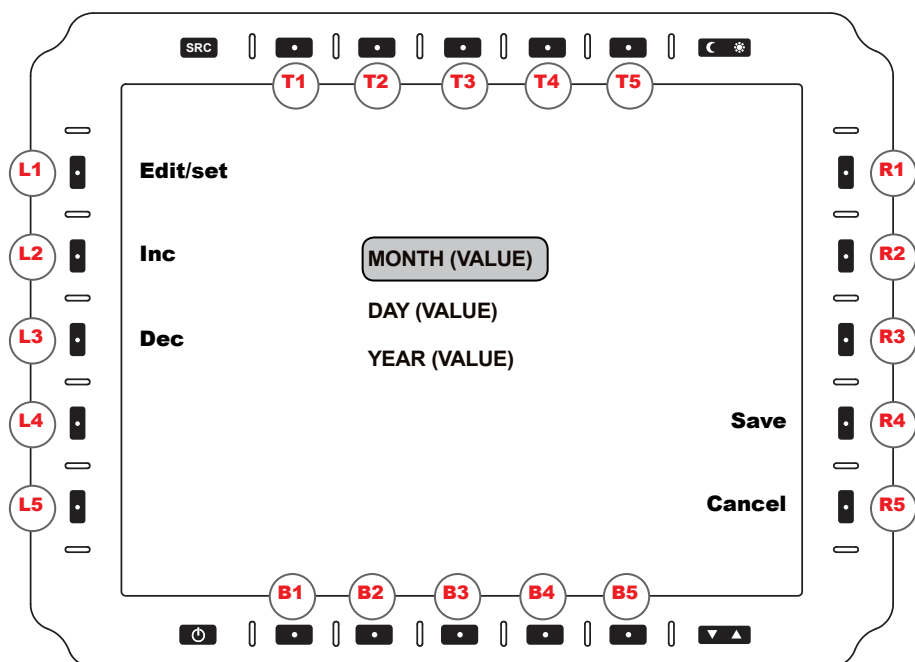

Figure 24
**DATE (R1).** Opens Date Adjust Menu (Figure 24).
The Date Adjust Menu (Figure 24) is accessed through R1 on the Main Menu screen (Figure 8). This menu allows the user to establish DATE settings. The highlight indicates the value to be changed.